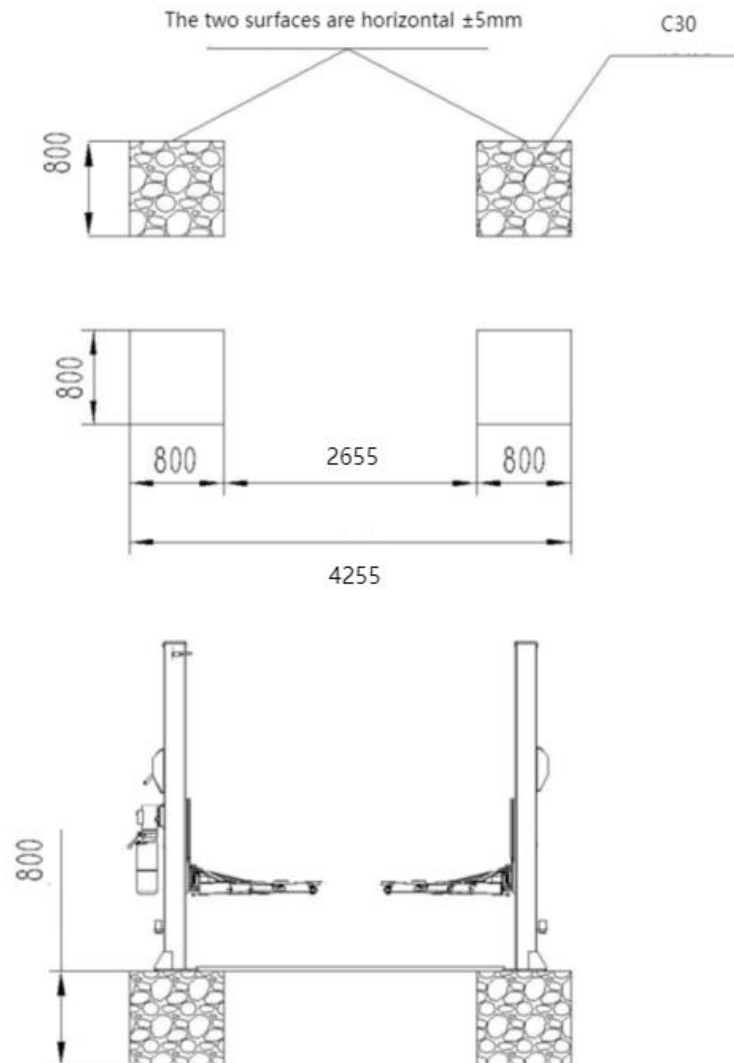

Figure 2 Lifting machine foundation size diagram
7.2 The lift can only be installed on the concrete ground, the foundation concrete is C30 grade, the thickness is more than 800mm, the horizontal error is less than 5mm, and the newly cast concrete needs to be dry for more than 20 days (see Figure 2).